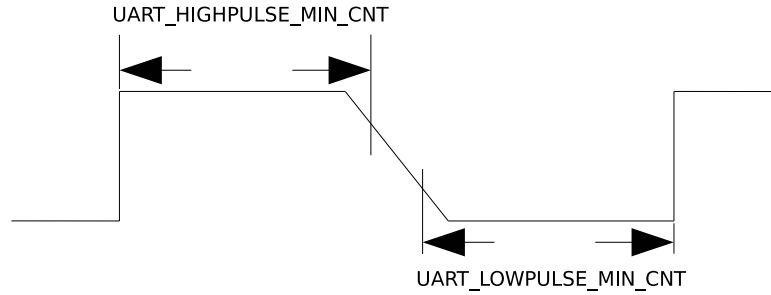

Figure 12-4. The Timing Diagram of Weak UART Signals Along Falling Edges
2. If UART signals are weak along falling edges as shown in figure 12-4, which leads to inaccurate average of `UART_LOWPULSE_MIN_CNT` and `UART_HIGHPULSE_MIN_CNT`, use `UART_POSEDGE_MIN_CNT` to determine the transmitter's baud rate as follows: